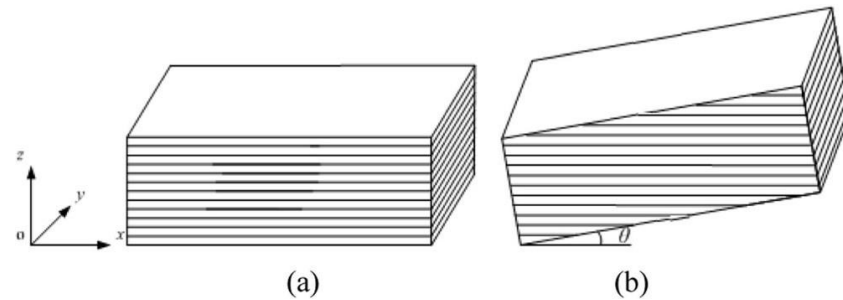

Figure 19: The cross section (a) and (b)[10]
- Deposition orientation.** It is the position where the part is built. Different position orientations will lead to different cross sections curing structure at the same location of molding parts. Θ represents the deposition orientation angle displayed in Figure 19.